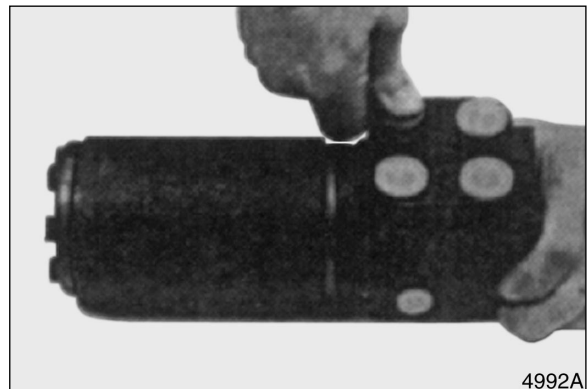

Figure 62
32. Install plastic plugs to prevent dirt from entering steering unit. See Figure 62.